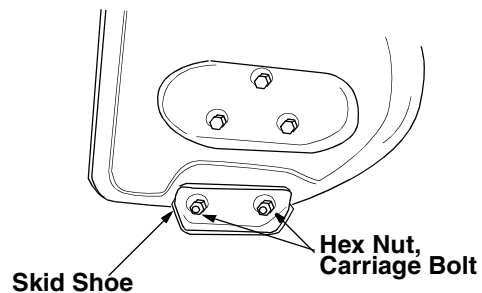

Figure 16
- For snow removal from uneven ground like gravel, adjust skid shoes downward to create sufficient clearance between the bottom edge of the shave plate and the ground. See Figure 16.
- Adjust skid shoes by loosening the four hex nuts and carriage bolts and moving skid shoes to desired position. Make certain the entire bottom surface of skid shoe is against the ground to avoid uneven wear on the skid shoes. See Figure 16.